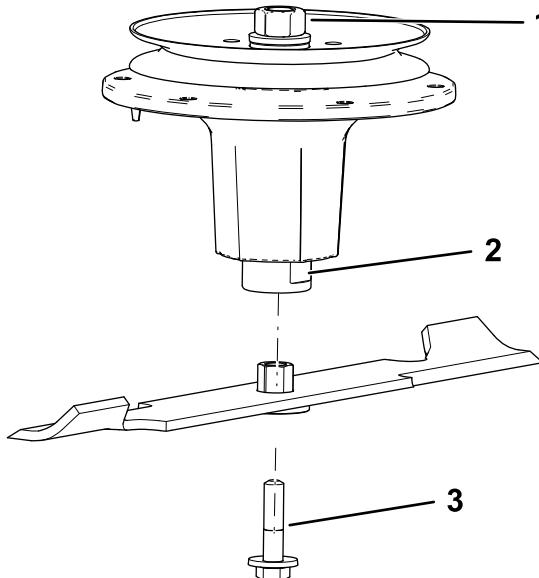

Figure 96
2. Install the bushing/blade assembly into the spindle shaft (Figure 96).